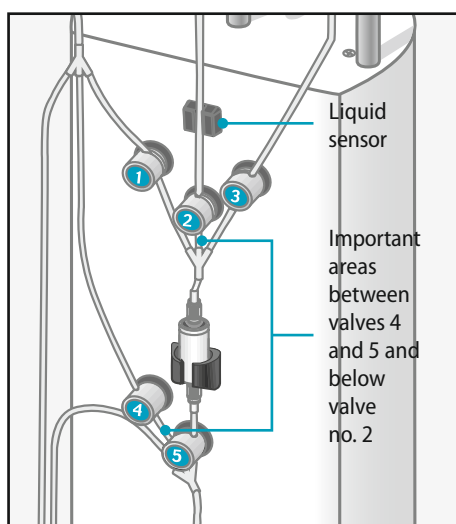
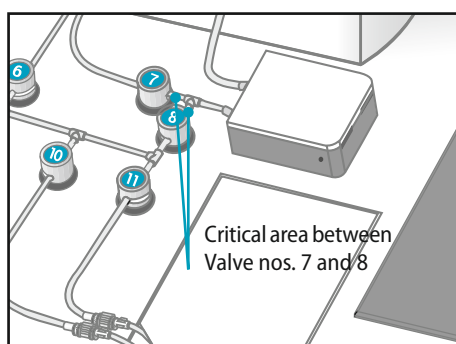

Figure 3.6: Tubing in valves
Figure 3.8: Tubing in valves
1. Load the tubing into valve no. 4. Confirm that the tubing is placed securely in the valve opening (see Figure 3.6). Pay particular attention to the area between valves nos. 4 and 5 (see Figure 3.6).
3. Position the 4-way fitting just below valve no. 2. Pay particular attention to the area below valve no. 2 (see Figure 3.6) and avoid bends or kinks in the tubing.
5. Mount the tubing between valve no. 2 and the bubble trap into the liquid sensor (see Figure 3.6). Confirm that the tubing is placed correctly into the sensor fitting.
- Check all valves for proper tubing insertion. Confirm that the tubing is spaced uniformly, and that there are no kinks or stretched areas in the tubing. Pay particular attention to the pre-column area, as well as the area between the pump and valves nos. 7 and 8 (see Figure 3.8), and between valves nos. 4 and 5 (see Figure 3.6).